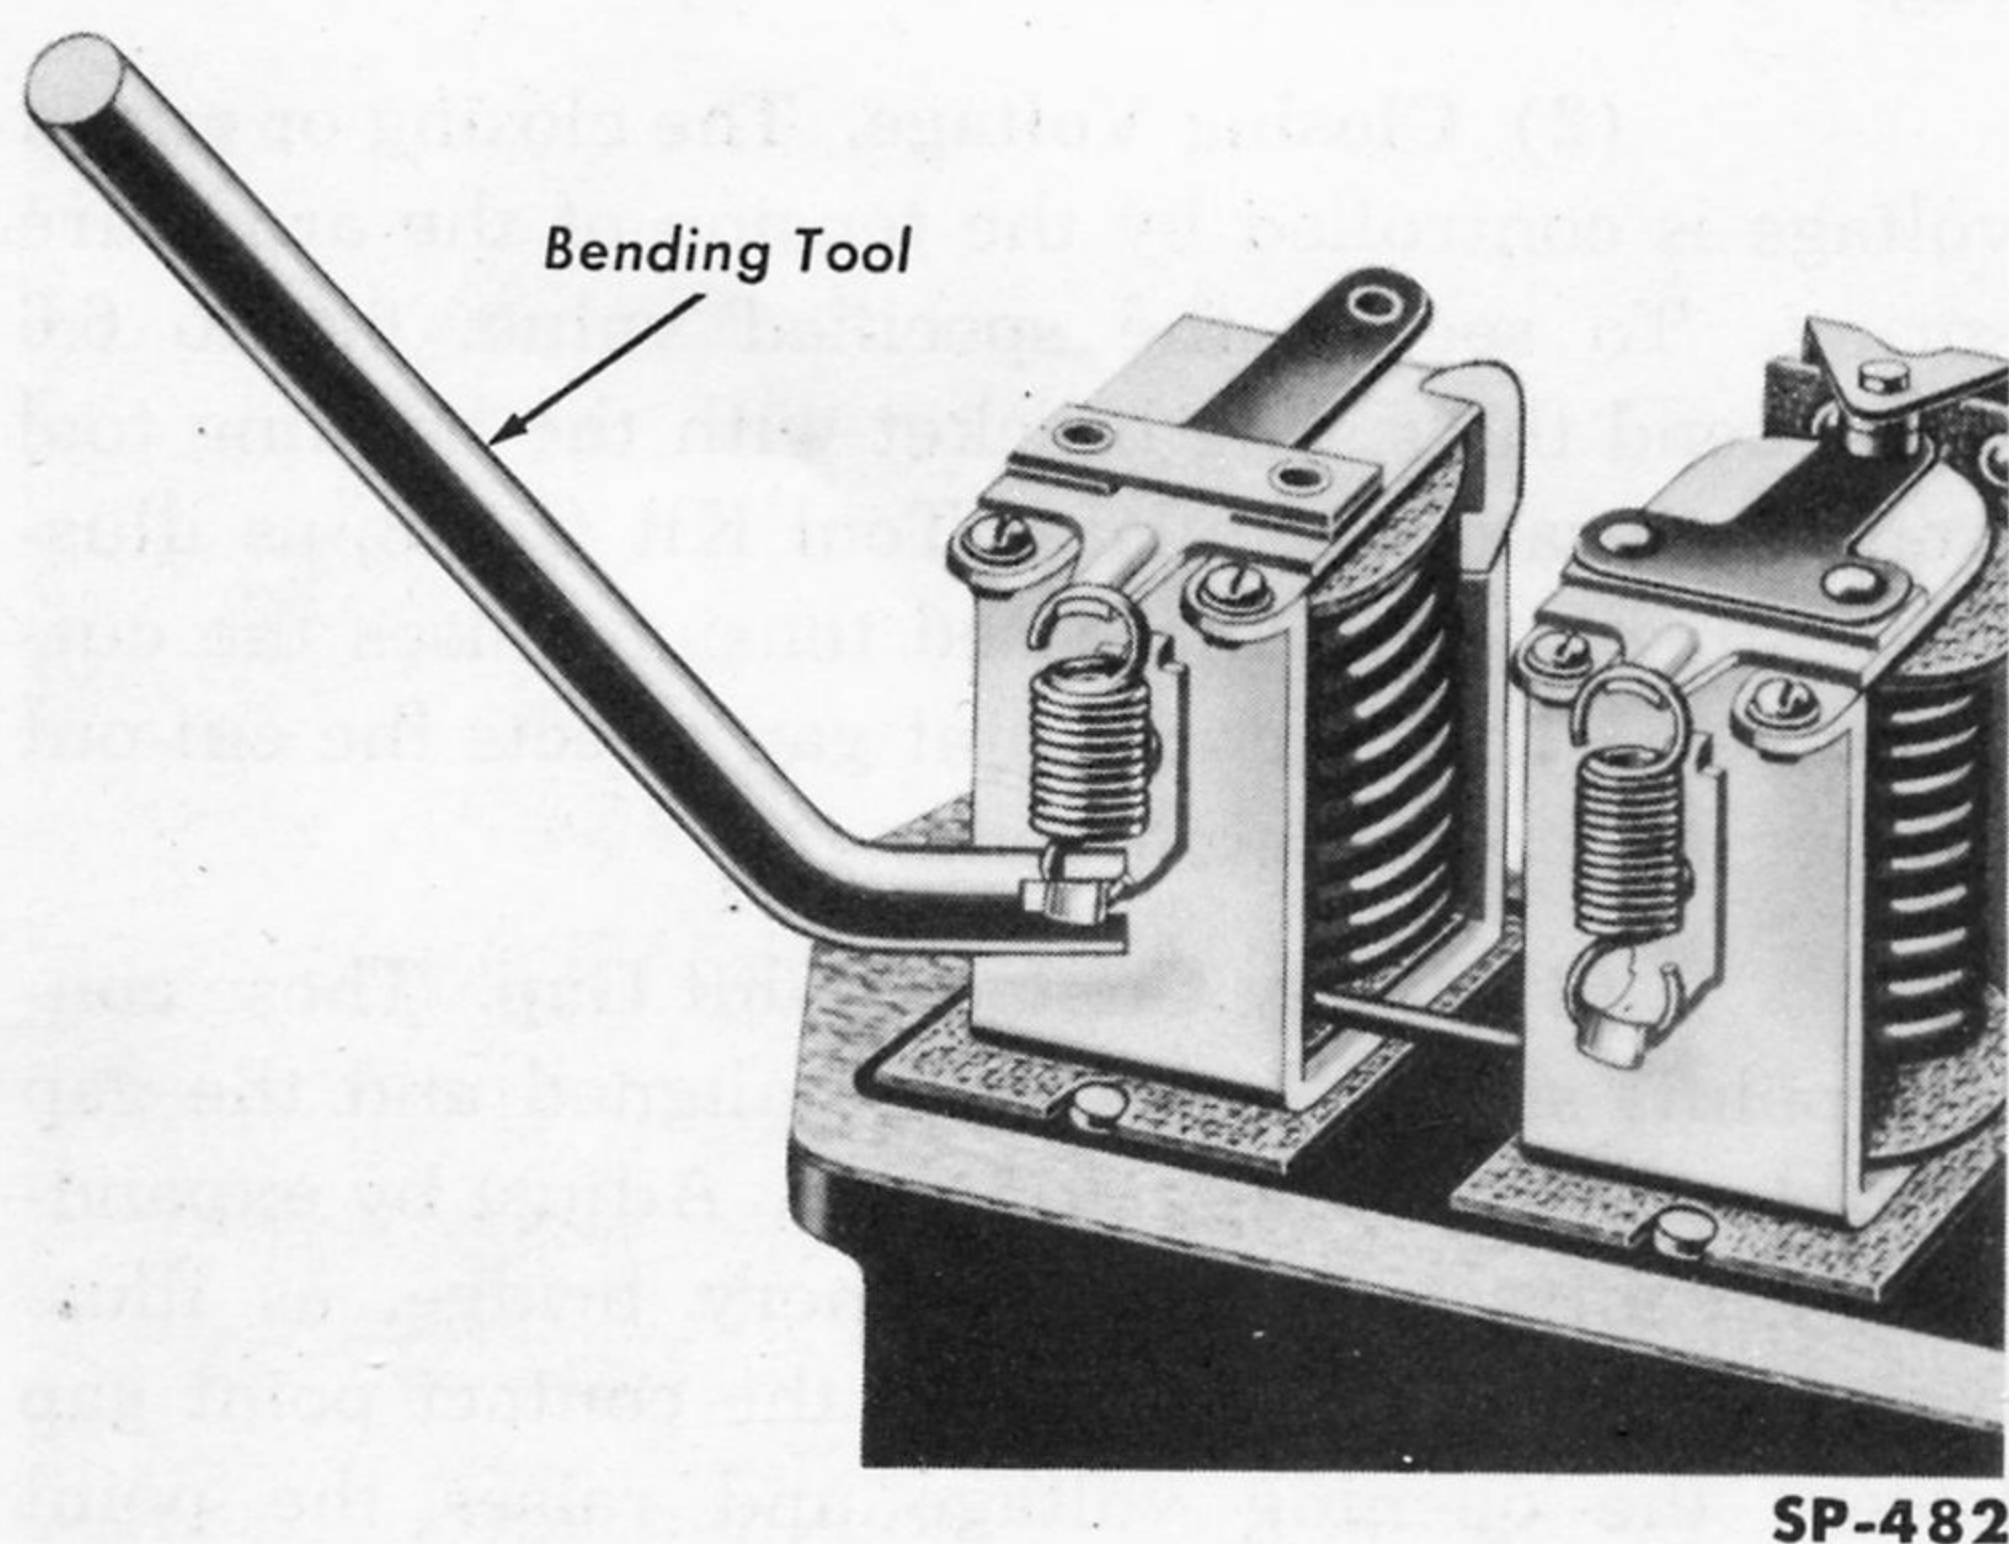

Fig. 411—Adjusting Frazer Regulator Spring Tension
(2) **Closing Voltage.** The closing or cut-in voltage is controlled by the tension of the armature spring. To secure the specified value, 6.4 to 6.6 volts, bend the spring bracket with the bending tool from Generator Regulator Tool Kit C-828, as illustrated in Fig. 411. Increased tension raises the cut-in voltage. The contact point gap affects the cut-out voltage and reverse current.
(3) Voltage Adjustment. To adjust the voltage, bend the voltage regulator armature spring bracket with the bending tool from Generator Regulator Tool Kit C-828, as illustrated in Fig. 411. Increasing the tension increases the voltage. The proper setting, with the cover in place, is 7.35 volts.
(4) Voltage Regulator Air and Contact Gaps. Any need of checking or resetting either of these gaps is unlikely. The proper specifications are given under GENERATOR REGULATOR SPECIFICATIONS later in this Section.
(3) Current Limit Adjustment. To adjust the amperage bend the current limiting generator armature spring bracket with the bending tool from Generator Regulator Tool Kit C-828, as illustrated in Fig. 411. Increasing the tension increases the current.
(4) Current Regulator Air and Contact Gaps. Any need of checking or resetting either of these gaps is unlikely. The proper specifications are given under GENERATOR REGULATOR SPECIFICATIONS below.